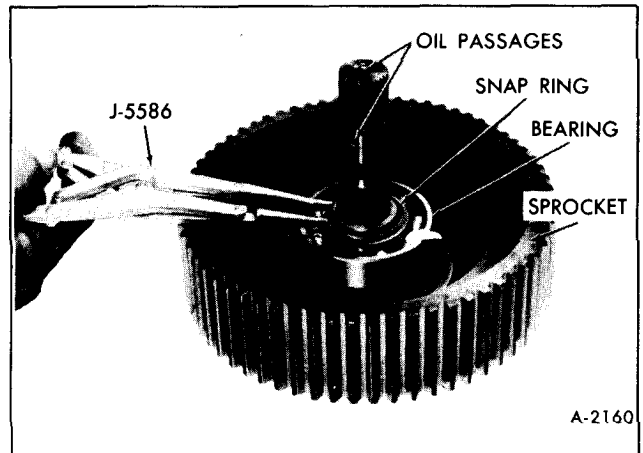

Figure 43—Removing Sprocket Bearing Snap Ring
a. Remove sprocket to bearing assembly retaining snap ring using Snap Ring Pliers, J-8059, Figure 43.